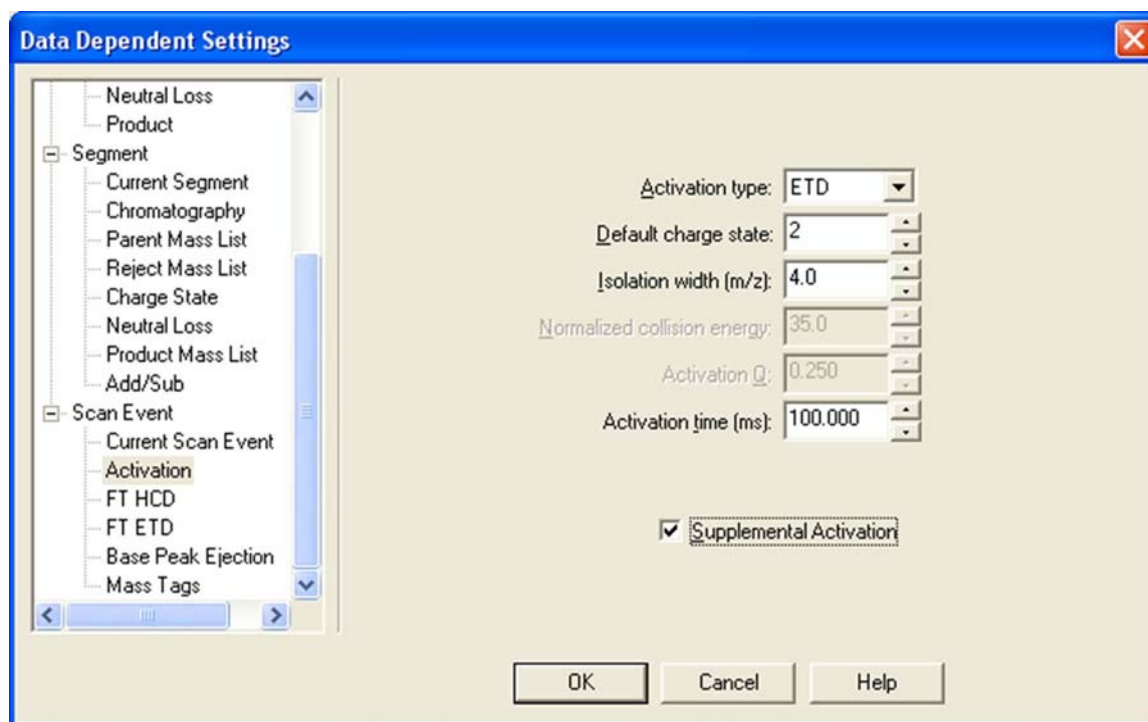

Figure 7-36. Data Dependent Settings dialog box in MS Detector Setup – Activation page
9. Click **Settings**. A Data Dependent Settings dialog box appears. See Figure 7-36 on page 7-39.